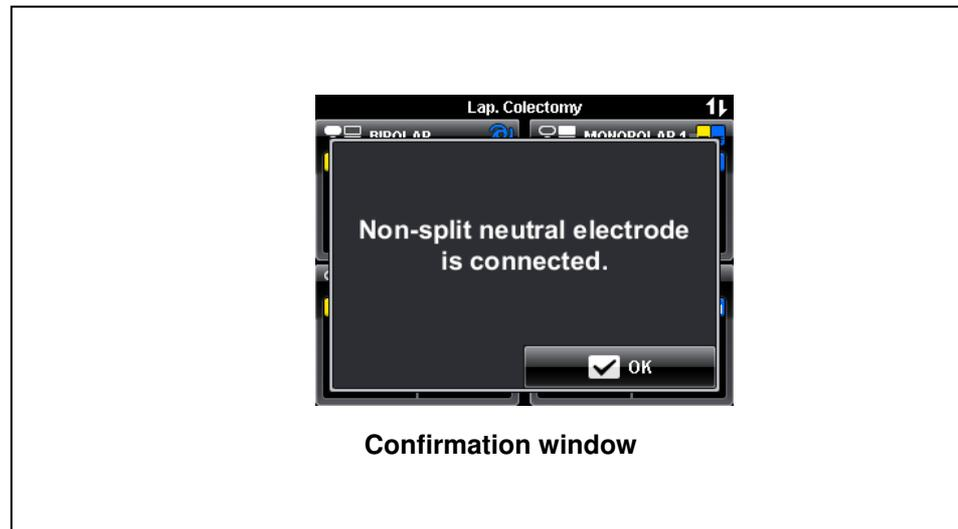

Figure 3.7
- If a non-split neutral electrode has been connected, a confirmation window according to figure 3.7 will appear. Press the “OK button” to continue and the display returns to the last used screen. Verify that the contact quality monitor indicator for non-split neutral electrodes illuminates green.